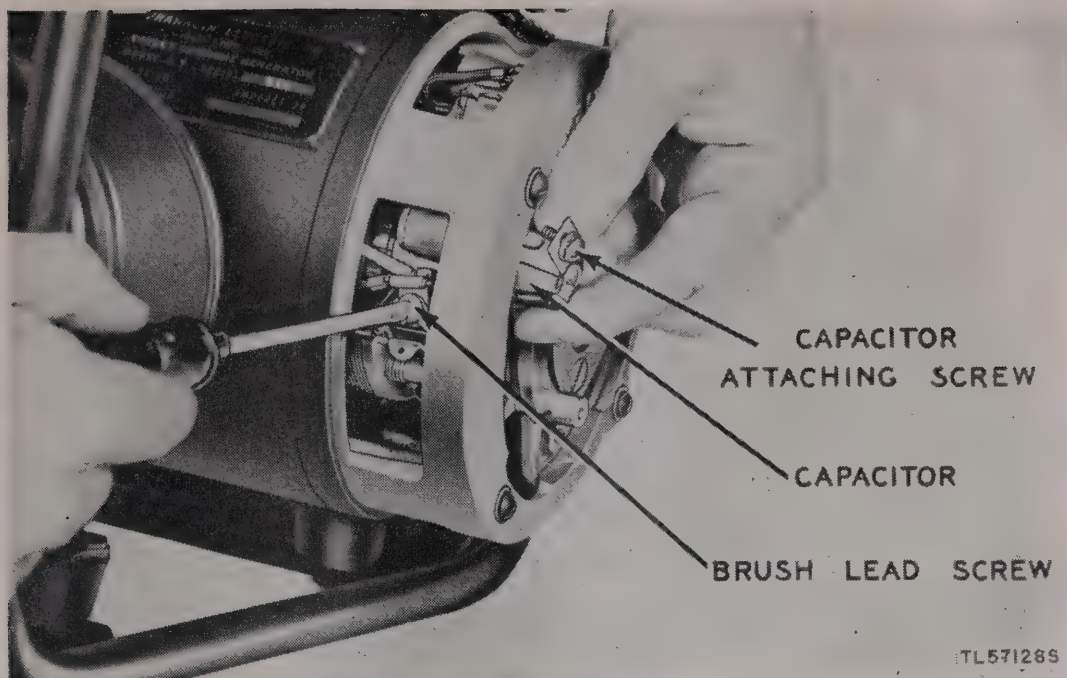

Figure 49. Replacing generator capacitor.
- (1) Insert the armature through the stator and install the armature in the commutator end shield. It may be necessary to tap the armature shaft lightly to force it through the end bearing. When the shaft is far enough in the bearing for the bearing-retainer screw and washer to be installed, the screw can be used to draw the shaft up into bearing.
- (2) Turn the stator on the end shield until the matching marks are properly aligned. Install the drive-end shield on the generator with the through-bolts. In installing this shield, be sure to have it in the correct position. Attach the holding nuts and locknuts to the end of the through-bolts and draw them up tight.
- (3) Install brushes.
- (4) Replace capacitors if they are defective (fig. 49).
- (5) Install generator on engine. Then install complete engine and generator unit in the power unit frame.